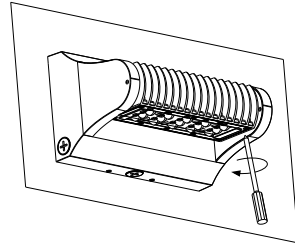

Figure 6
6. Adjust viewing angle and tighten screws. (Figure 6)